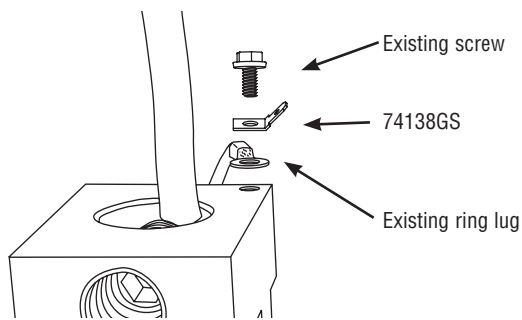

Figure 4 - Add Male Disconnect Adapter to Contactor Terminal
2. Install Male Disconnect Adapters (74138GS) to transfer switch contactor terminals N1, N2, E1 and E2. See Figure 4. Torque screws to value listed in transfer switch.